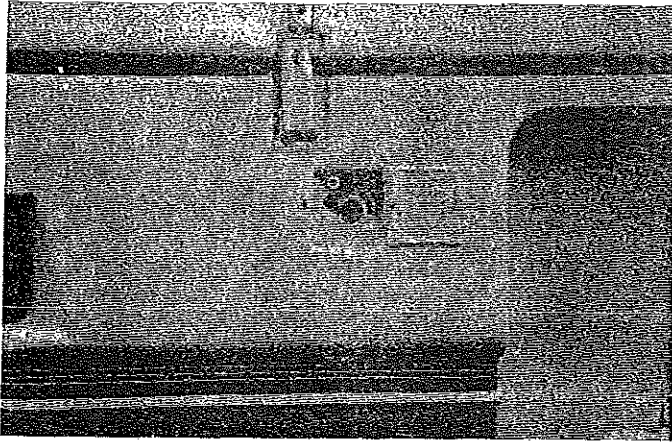

FIGURE 36
35. On Pioneer models, rotate the crankshaft handle clockwise slightly to relieve the tension on the crankshaft hook. Disengage the crankshaft hook. On Americana models, turn the posi-action control handle and the safety latch counterclockwise to allow the top to be lowered. See Figures 36 and 37. Close and secure crankshaft cover or door.